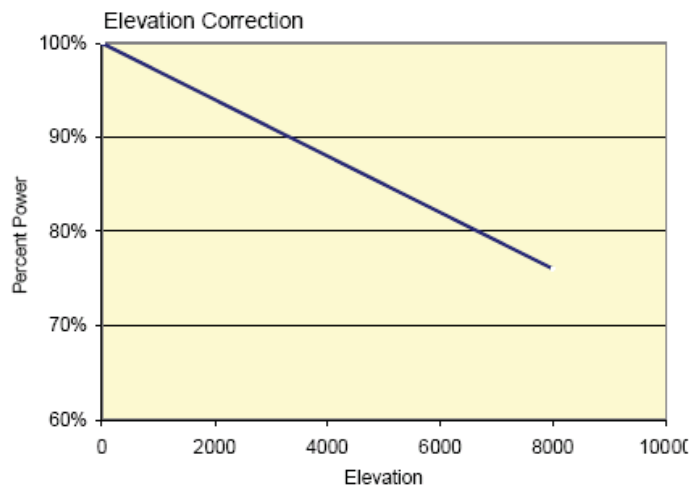

Figure A1-4 An Example of the Effect of Altitude (above sea level, feet) on the Electric Power Output
- Figure A1-4 shows the effects of altitude on gas turbine **performance**